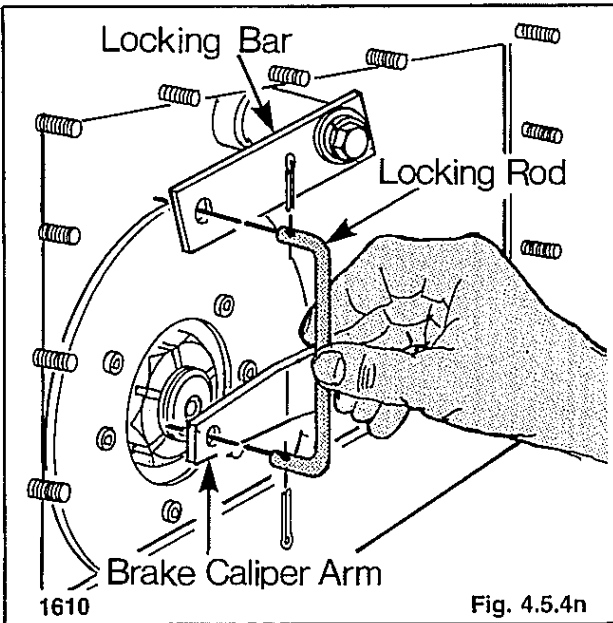

Fig. 4.5.4n
13. Connect the locking rod to the locking bar and caliper arm and secure in place with split pins (fig. 4.5.4n).